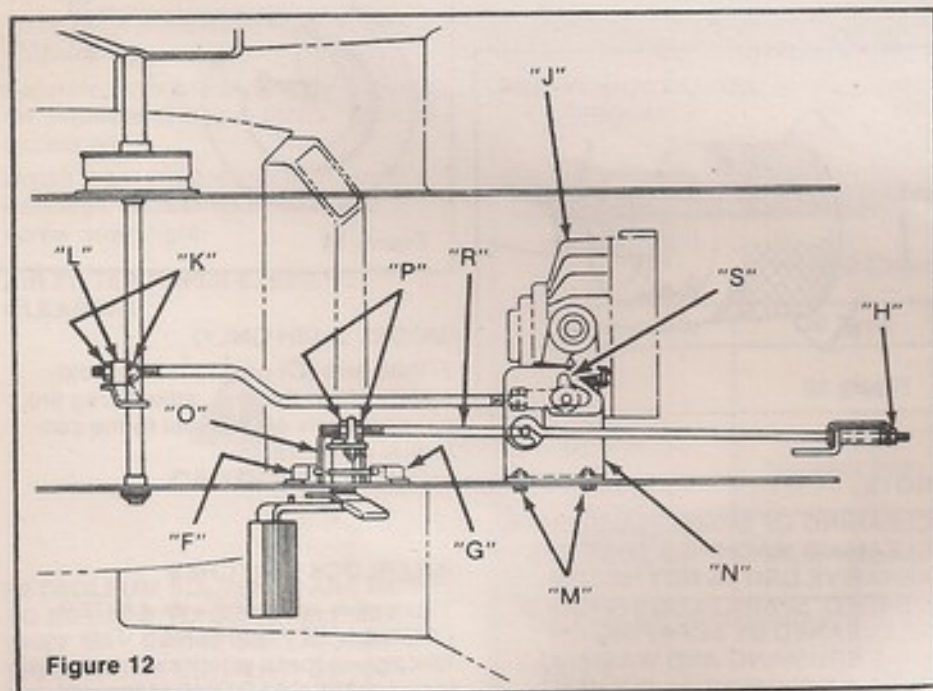

Figure 12
3. The third switch (F), Figure 12, is on the brake/neutral linkage. It must be depressed by pushing down on the brake/neutral pedal to start the engine.
4. The fourth switch (G), Figure 12, is also on the brake/neutral linkage. When the pedal is depressed, the button of the switch is released and all power to the speed control is shut off.
Remove ignition key. Remove all dirt from around transmission filler area. Clean transmission cooling fins (J), Figure 12, periodically. If tractor is operated in a dusty environment, check and clean cooling fins frequently.
The Pedal was adjusted at the factory with tip of pedal approximately 45° forward of the vertical center line. If the operator would prefer to either increase or decrease this angle for his personal comfort, the pedal can be adjusted as follows: (See Figure 12).
2. Disassemble tractor chassis tunnel by removing the (4) mounting screws.
4. Loosen capscrews (M), Figure 12, and move support plate (N) forward if wheels rotate in forward direction, or toward rear if wheels rotate in reverse.
5. Tighten capscrews (M) securing support plate when wheels no longer rotate.
6. Stop engine and lock brake arm against the stop (O), Figure 12.
7. Loosen jam nuts (P), and turn rod (R) until pin enters slot (S) of neutral plate. Adjust until there is a gap of 1/32" between end of slot and pin.